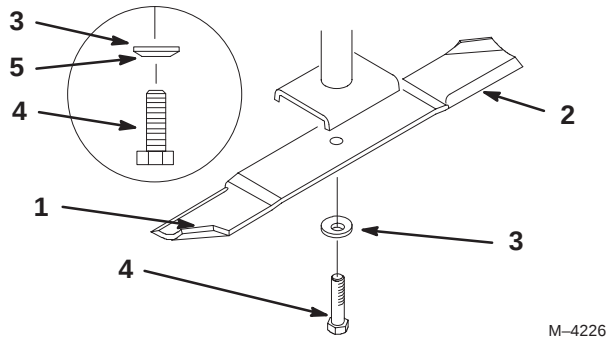

Figure 29
1. Hold the blade end using a rag or thickly-padded glove. Remove the blade bolt, spring disk and blade from the spindle shaft (Fig. 29).
2. Check the balance of the blade by putting it on a blade balancer (Fig. 28). If the blade stays in a horizontal position, the blade is balanced and can be used. If the blade is not balanced, file some metal off the end of the sail area only (Fig. 29). Repeat this procedure until the blade is balanced.
1. Install the blade onto the spindle shaft (Fig. 29).
2. Install the spring disk and blade bolt (Fig. 29). **Torque the blade bolt to 85–110 ft-lb (115–150 N•m).**